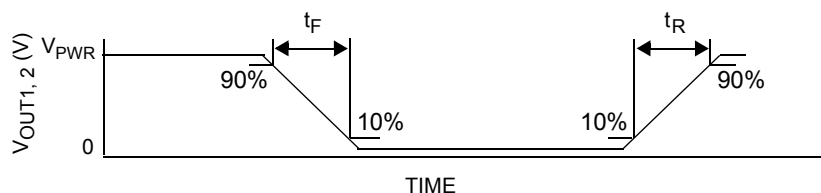

Figure 6. Output Switching Time
27. Rise Time is from the 10% to the 90% level and Fall Time is from the 90% to the 10% level of the output signal with $V_{\text{PWR}} = 24\text{ V}$, $R_{\text{LOAD}} = 3.0\text{ ohm}$. See Figure 6, page 10.